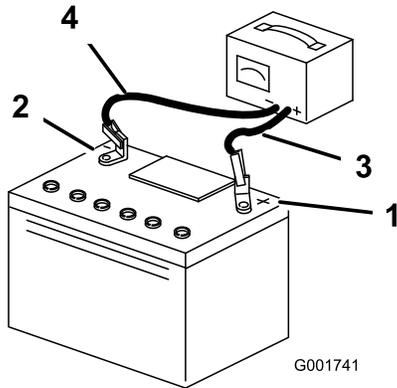

Figure 2
7. Connect the charger leads to the corresponding battery posts as shown in Figure 2.
8. Charge the battery for 10 to 15 minutes at 25 to 30 amps or 30 minutes at 4 to 6 amps (Figure 2). Do not overcharge the battery.
9. When finished, unplug the charger from the electrical outlet, then disconnect the charger leads from the battery posts (Figure 2).